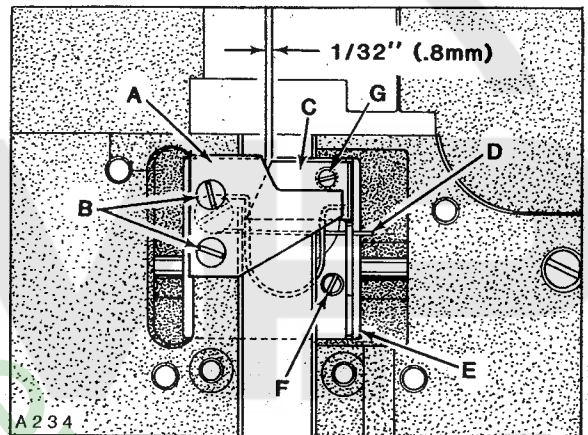
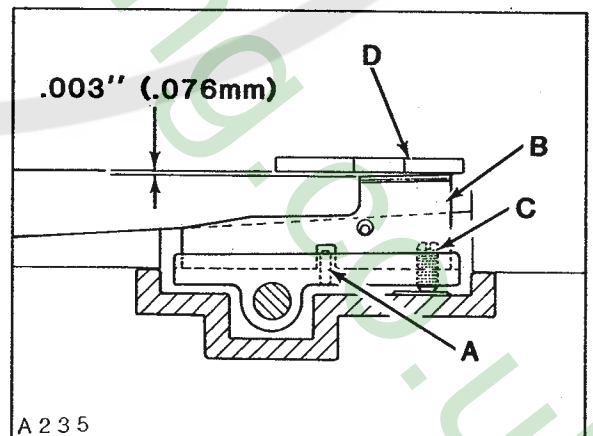

Fig. 31
Fig. 32
NOTE: References to Fig. 31 are as viewed from rear of machine; references to Fig. 32 are as viewed from left end of machine.
Upper knife (A, Fig. 31) can be replaced by removing two screws (B). In order to replace lower knife... the upper knife, rear cover and thread inlet must be removed. Lower knife (C) is held in position by roll pin (A, Fig. 32) and tension spring (D, Fig. 31). To remove lower knife, lift up and tilt to the right. When replacing lower knife, be sure to engage end of tension spring through the hole in the side of lower knife before inserting in the slide block (E). Also be sure that the slot in lower knife is located over roll pin.
IMPORTANT! Be sure that lower knife does NOT strike against knife housing or feed chamber cover. Adjustment should be accomplished by loosening one screw (F, Fig. 31) and reposition left or right slightly.
Carefully press against slide block (E, Fig. 31) until air motor stalls.
With treadle still depressed, check the knife cross over. The cross over of the lower knife to the upper knife is positioned correctly, when the lower knife is $\frac{1}{32}$ inch (.8mm) from the front of the upper knife as shown in Figure 31. If adjustment is required, loosen screw (F), reposition slide block (E) slightly as required. Retighten screw (F) and recheck cross over.
Shear angle should be .003 inch (.076mm), measured at rear cutting edge of lower knife (B, Fig. 32) and cutting edge of upper knife (D).
Adjustment can be made by turning lower knife adjusting screw (C, Fig. 32) counterclockwise (a small amount at a time) while manually
operating slide block (E, Fig. 31) continuously checking with a piece of thread to see if knives are cutting. As soon as the knives fail to cut the thread and the shear angle is zero, turn screw (C, Fig. 32), same as (G, Fig. 31) clockwise approximately 1/4 turn. Check cutting action of knives with sewing motor switch "ON".